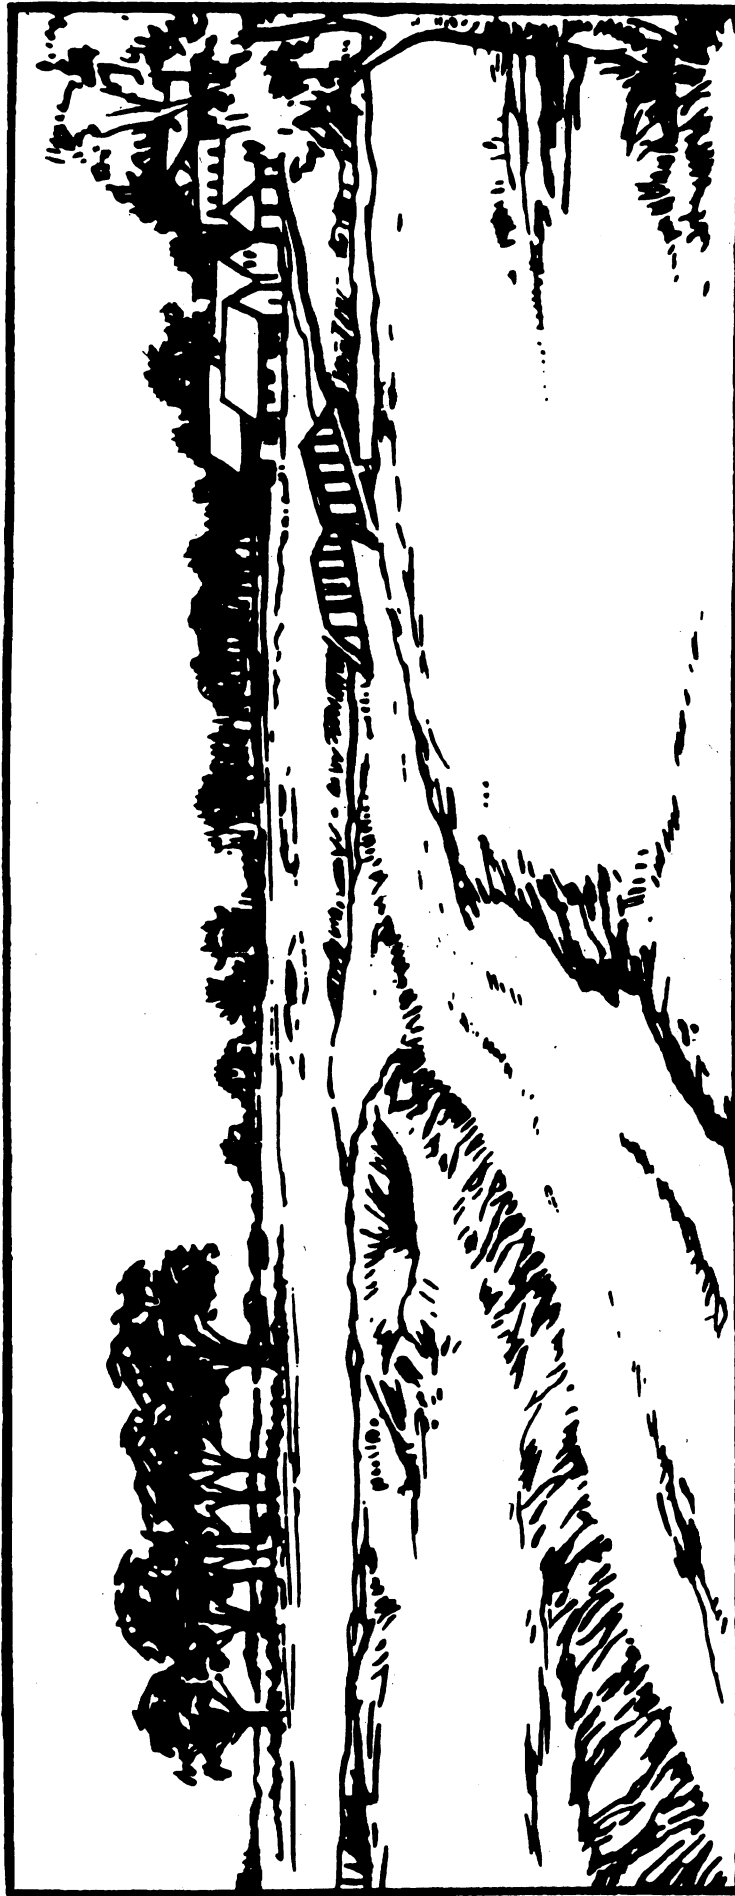

Fig. 4-26. Panoramic view of tactical area.
b. Let's imagine a scenario to illustrate how you would prepare a range card. First, observe figure 4-26 to see an illustration of a tactical field setting. Read the scenario that follows for a description of the details and the lay of the land.